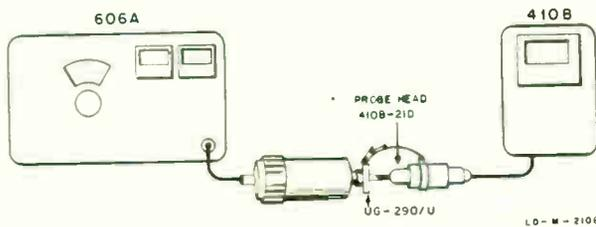

Figure 4-5. Output Level Frequency Response
a. Connect ac probe of Model 410B High Frequency VTVM to output termination as shown in figure 4-5. Solder tip of Model 410B ac probe to center conductor of UG-290/U connector. Clip ground lead